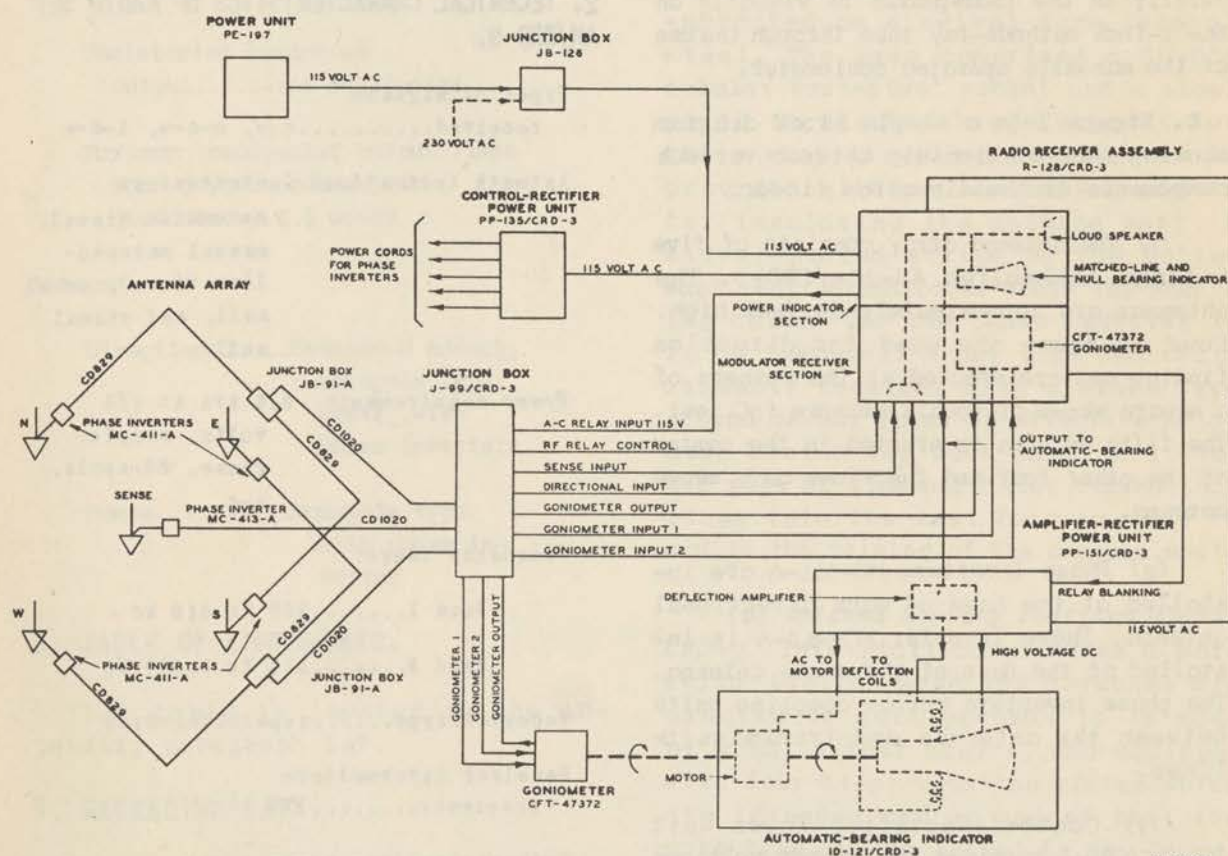

Figure 2. Block diagram of Radio Set AN/CRD-3.
(1) Matched-line indication on the face of a 2-inch cathode-ray tube through the use of a manually operated goniometer.
(2) Instantaneous propeller-shaped patterns on the face of a 5-inch cathode-ray tube through the use of a motor driven goniometer.
(3) Null method which can be observed aurally on the loudspeaker or visually on the 2-inch cathode-ray tube through the use of the manually operated goniometer.
c. Figure 2 is a simple block diagram showing the relationship between various components of the direction finder.
(1) The antenna array consists of five Antenna Assemblies AS-204/CRD-3. The antennas are approximately 64 feet high. Four of these are used for direction finding and are erected at the corners of a square whose diagonals measure 180 feet. The fifth antenna is erected in the center of the other four and functions as a sense antenna.
(2) Phase Inverters MC-441-A are installed at the base of each directional antenna. Phase Inverter MC-443-A is installed at the base of the sense antenna. The phase inverters act as coupling units between the antennas and transmission lines.
(3) Control-Rectifier Power Unit PP-135/CRD-3 provides the proper voltages for the operation of the phase inverters.
(4) Goniometers CFT-47372 combine the antenna outputs in proper relationship and feed them to the receiver input.
(5) Radio Receiver Assembly R-128/CRD-3 consists of two sections: the power indicator section, and the modulator section.